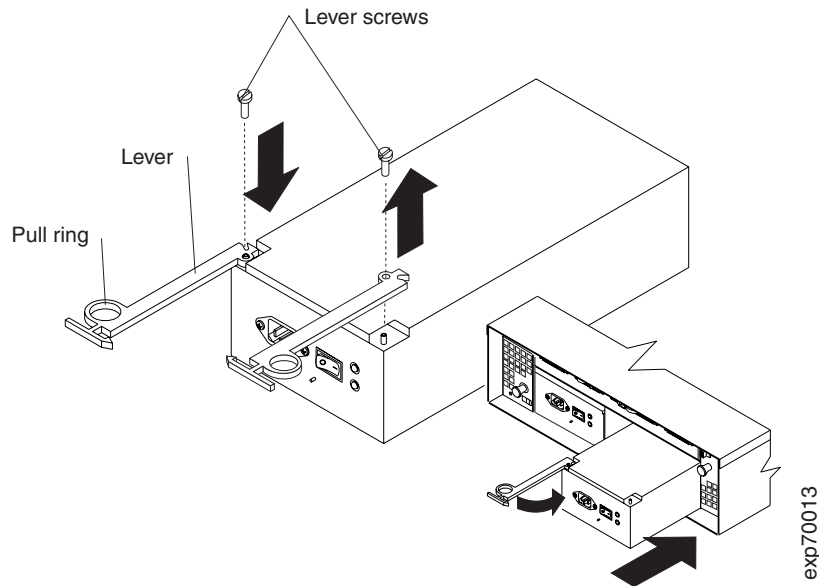

Figure 52. Moving the power-supply lever and replacing the failed hot-swap power supply
Note: When you replace the failed power supply, ensure that the new power-supply lever is attached to the side of the power supply that faces the middle of the storage expansion enclosure. If it is not, remove the lever screw, flip the lever over, and tighten the screw on the opposite side as shown in Figure 52 on page 73.
- a. Slide the power supply into the storage expansion enclosure. Be sure the lever is pulled straight out as you slide the power supply into the storage expansion enclosure (see Figure 52).